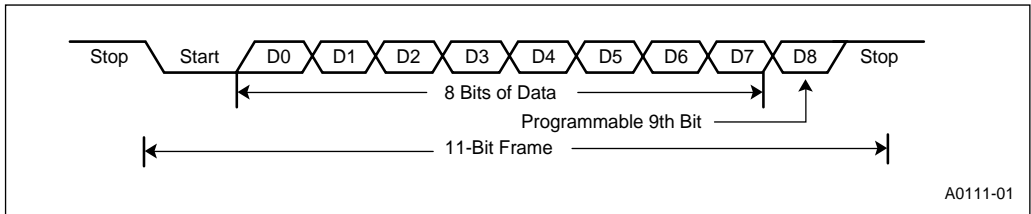

Figure 7-5. Serial Port Frames in Mode 2 and 3
Mode 2 is the asynchronous, ninth-bit recognition mode. This mode is commonly used with mode 3 for multiprocessor communications. Figure 7-5 shows the data frame used in this mode. It consists of a start bit (0), nine data bits (LSB first), and a stop bit (1). During transmissions, setting the TB8 bit in the SP_CON register before writing to SBUF_TX sets the ninth transmission bit. The hardware clears the TB8 bit after every transmission, so it must be set (if desired) before each write to SBUF_TX. During receptions, the RI flag and RI interrupt pending bit are set only if the TB8 bit is set. This provides an easy way to have selective reception on a data link. (See “Multiprocessor Communications” on page 7-8). Parity cannot be enabled in this mode.